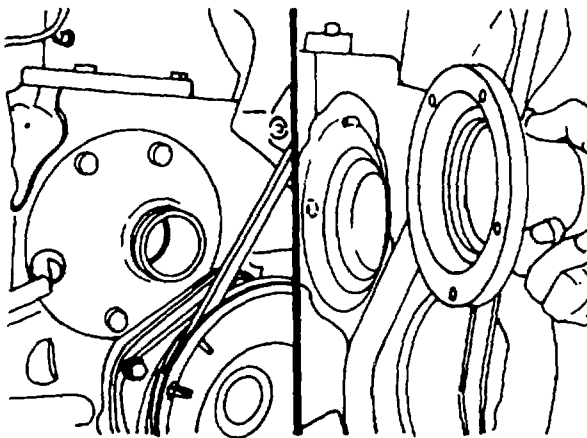

Figure 4-51. Removing Starting Crank Bearing
9. Remove bolts of starting crank bearing and remove bearing (figure 4-51).